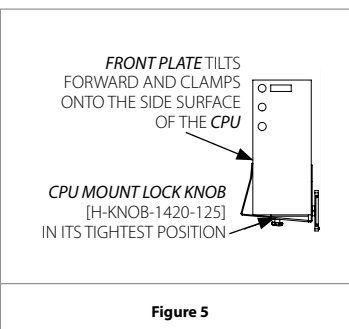

Figure 5
3. Slide the *CPU MOUNT FRONT PLATE* inwards until the top edge sits flat with the side surface of the *CPU*. (Figure 5)